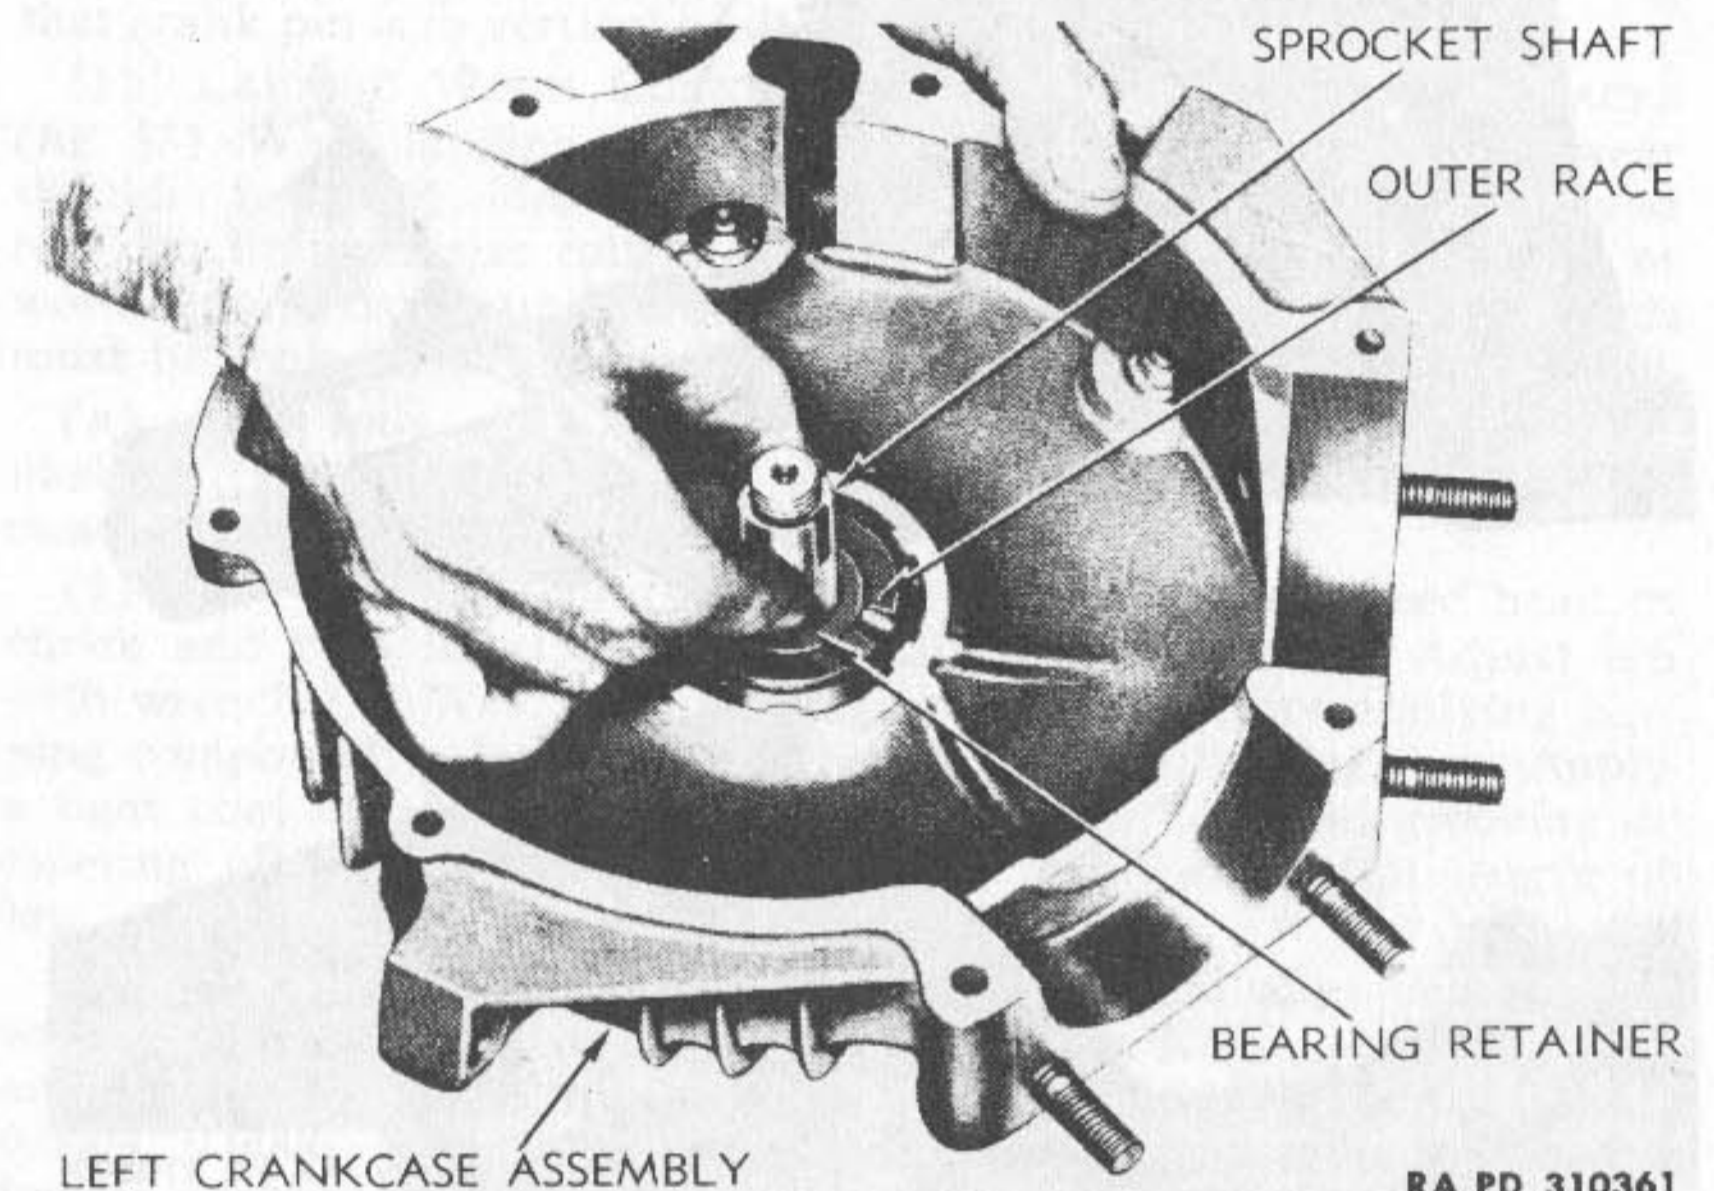

Figure 36—Using Gear Shaft as Size Plug to Determine Bearing Fit
b. **Fitting Mainshaft Bearings (fig. 36).** When fitting mainshaft bearings, the shafts to be used when flywheels are reassembled can be used as gages to determine when roller bearings are fitted to correct clearance. After crankcase mainshaft bearing races have been trued by lapping (par. 29 a (3)) roller bearings can be fitted as follows:
sprocket shaft bearing (fig. 36). Gear shaft main bearing clearance is 0.0008 to 0.0012 inch.